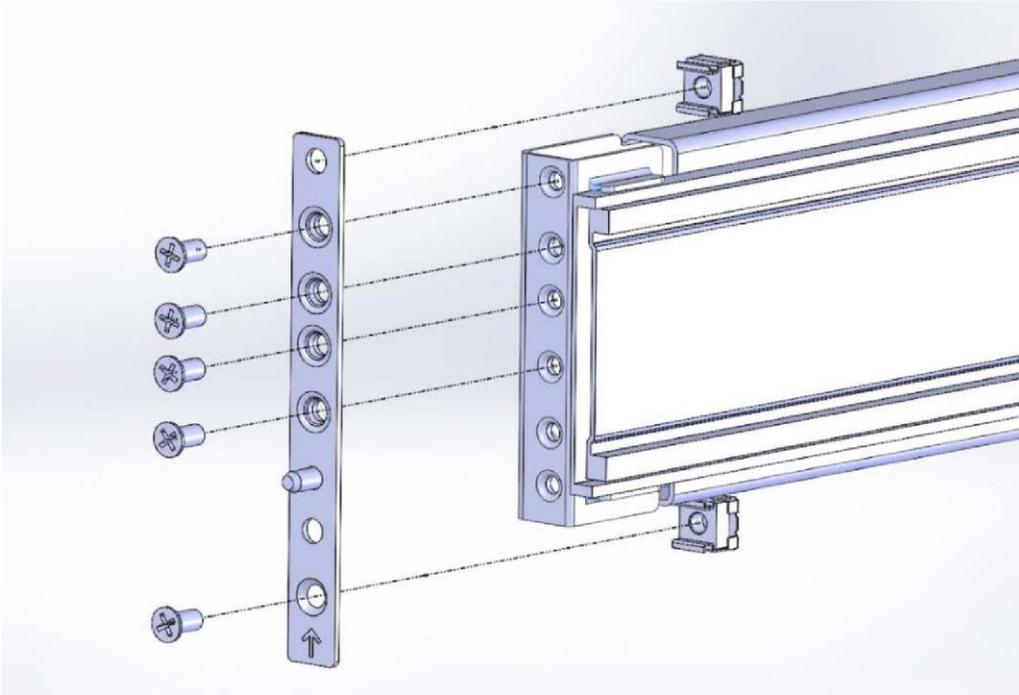

Figure 3.10 Right front mounting plate and rail
7. Insert one of the M5 cage nuts into the square rack hole immediately above the rail as shown in Figure 3.10.
8. Insert a second M5 cage nut into the square rack hole immediately below the rail, also shown in Figure 3.10.
9. Secure the mounting plate and left cabinet member rail onto the front left rack post using five of the M5 X 10 flat head screws. Figure 3.10 on page 39 demonstrates a properly installed right front mounting plate and rail.